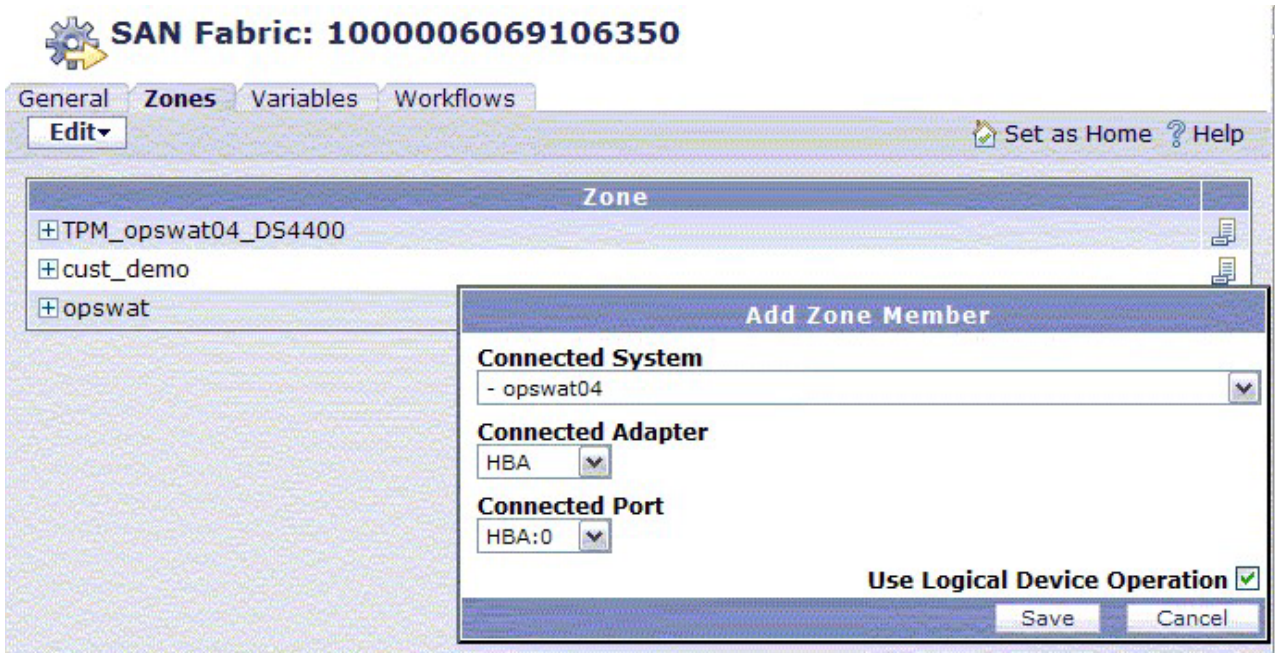

Figure 3. Running the logical device operation
- c. In the Input Parameter for Workflow window, type the following information. (See Figure 3 on page 24.)